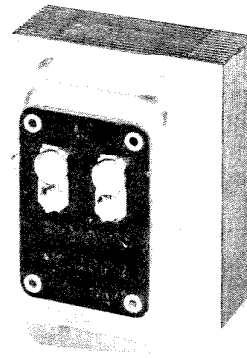

Fig. 2. Auxiliary Power Transformer.
1. An auxiliary power transformer (Fig. 2) is required to supply power to the Master unit when it is removed from the wall mounting for testing on the service bench.